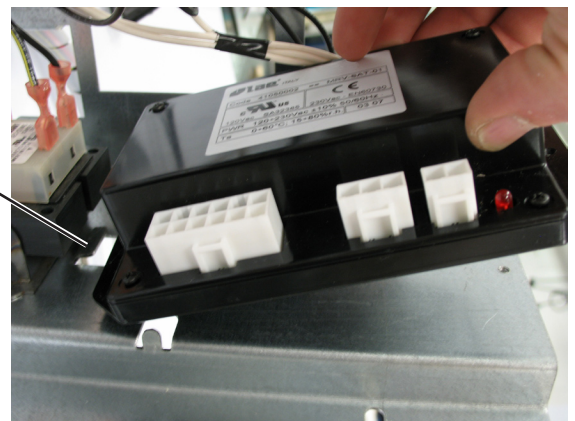

Figure 5.3
4. The electronic control will then slide slightly forward to release from the bracket tab and then down (see Figure 5.3).